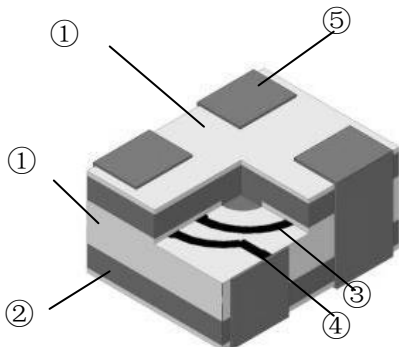
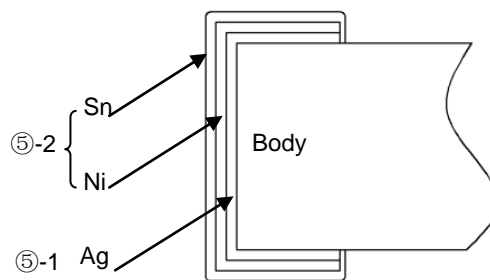

Fig. 4-4
Fig. 4-5
- 4) Structure: See Fig. 4-4 and Fig. 4-5.